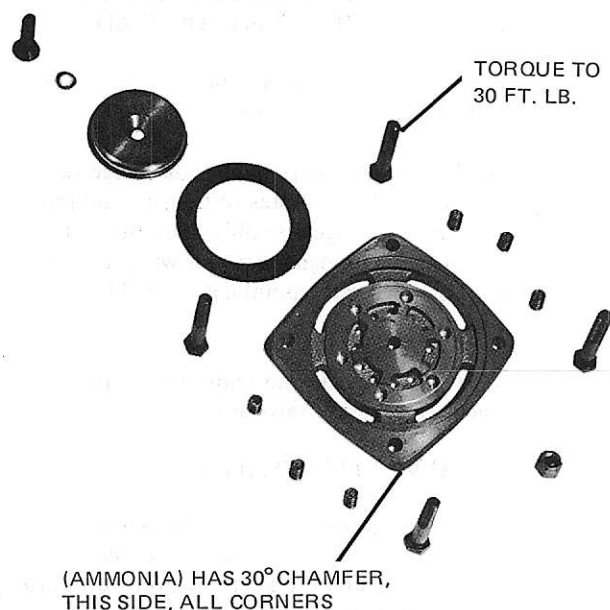

FIG. 20 — DISCHARGE VALVE CAGE
SUCTION & DISCHARGE VALVES (See Figs. 20 to 25)
1. Discharge Valve Cage (See Fig. 20) — The thickness has been increased 1/8". The valve cage will have four larger core ports rather than 8 small ports. The discharge valve cage for RW (ammonia) compressors will have a bevel cut from its 4 corners as a means of identification. The length of the discharge valve cage assembly center bolt has been increased 1/8". The specified torque for the 4 valve cage hold down bolts has been increased to 30 ft. lb.